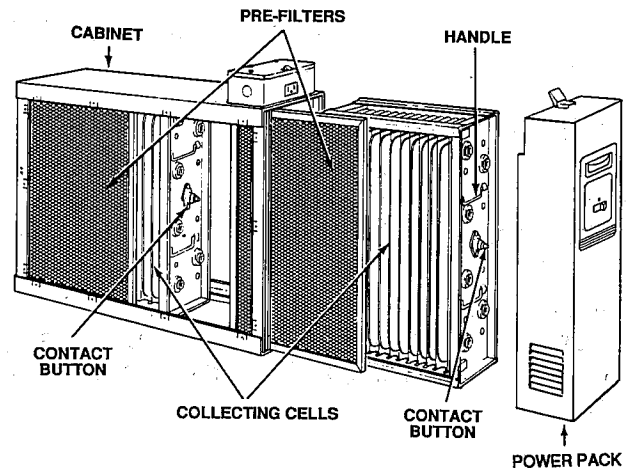

Figure 19
10. With the cabinet installed, re-install pre-filter(s) and collecting cell(s) (Figure 19).